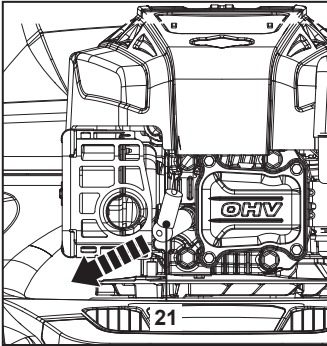

Fig. 31
1. Disconnect the spark plug connector (21) (Fig. 31).